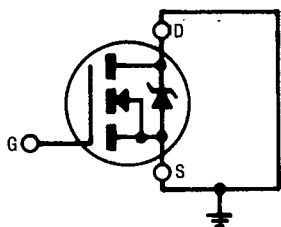
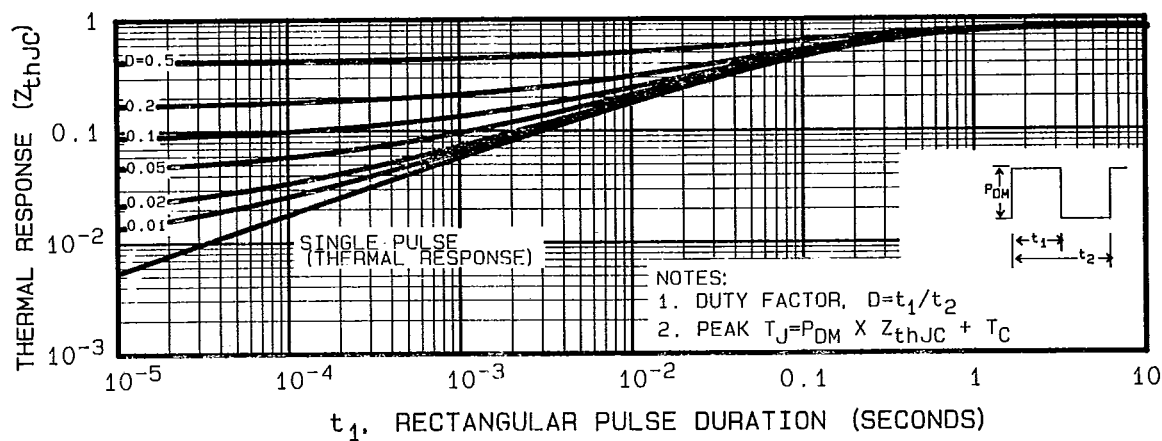

Fig. 11a — Gate Stress of V_{GS} Equals 12 Volts
Fig. 17 — Maximum Effective Transient Thermal Impedance, Junction-to-Case Vs. Pulse Duration
The two test circuits used during low dose rate exposures are shown in figure 11. The first test circuit biases the gate electrode at 12 volts with respect to the drain and source electrodes (see fig. 11a). In general, a
② Repetitive Rating; Pulse width limited by maximum junction temperature (see figure 17)
③ @ $V_{DD} = 50V$, Starting $T_J = 25^\circ C$, $L = 1.6$ mH, $R_G = 25\Omega$, Peak $I_L = 38A$.
④ $I_{SD} \leq 38A$, di/dt ≤ 200 A/ μ s, $V_{DD} \leq BV_{DSS}$, Suggested $R_G = 6.2\Omega$
⑤ Pulse width $\leq 300 \mu$ s; Duty Cycle $\leq 2\%$
⑥ High Total Dose Irradiation with V_{GS} Bias. +12 volt V_{GS} applied and $V_{DS} = 0$ during irradiation per MIL-STD-750C, method 1019. (See figure 11a)